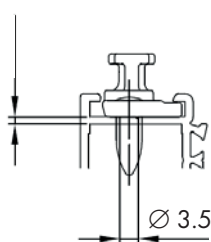

Fig. 4 (2,1)
2.1 Jig ALU-EB-E (3.5 mm) for frame (hole Ø 3.5) (fig. 4)	MAR80060-500010
Position jigs ALU-EB-E and (see fig.3) and drill boreholes for strikers E (**530**) (see fig. 4) with Ø 3.5 or (see fig. 5) with Ø 4.2 (remove markings).
- E** ESG LM M6 (620) into the milling groove provided (fig. 4).
- F** Mount ESG LM M6 (620) with coupling screws M6 (907) to the operating rods.